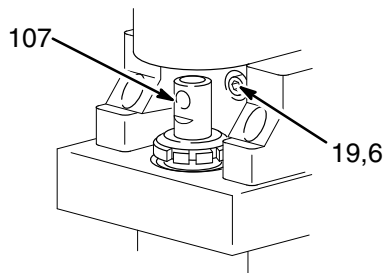
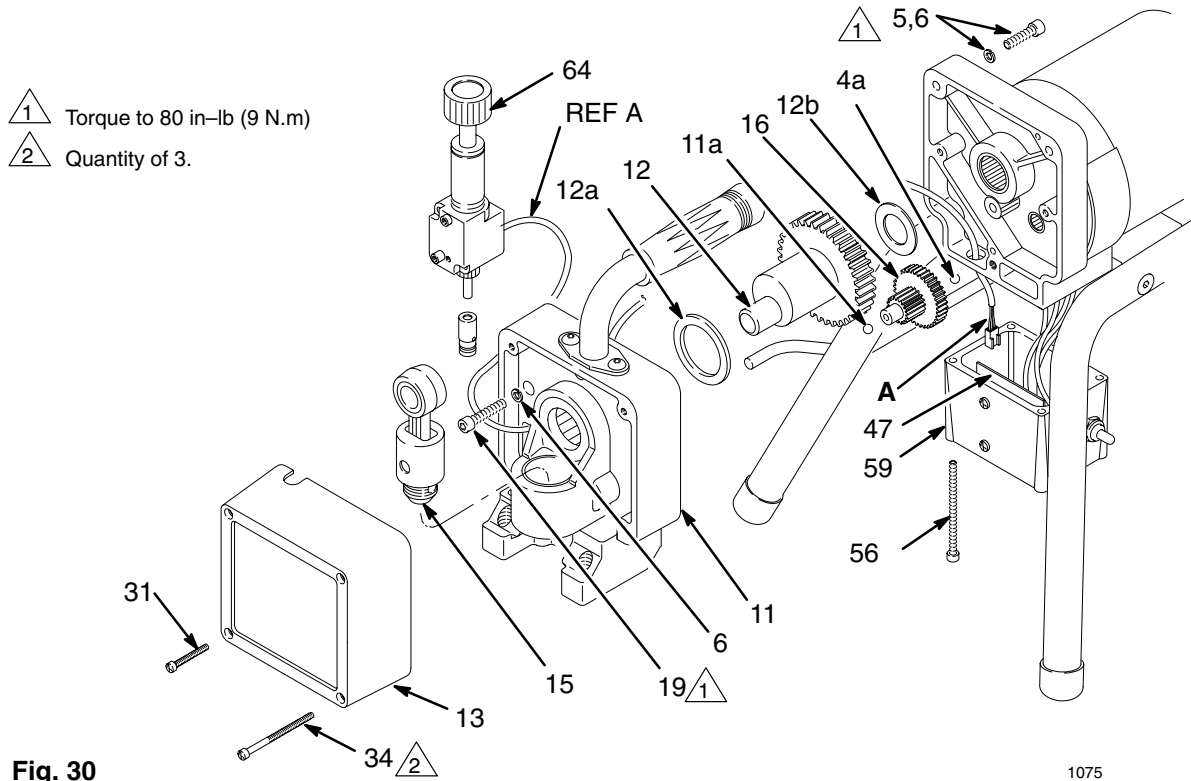

Fig. 29
Fig. 30
2. Remove the pressure control (64). See page 28.
3. Turn the displacement pump rod (107) so the pin hole aligns with the bottom drive housing screw (19). See Fig. 29. Remove the three drive housing screws and lockwashers (19, 6). Also see Fig. 30.
4. Remove the two motor screws and lockwashers (5, 6). See Fig. 30.
5. Tap the lower rear of the drive housing (11) with a plastic mallet to loosen the motor. Pull the drive housing straight off the motor.